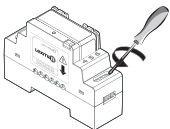

figure 4
5. In order to facilitate the connection, unscrew the 6 screws of the DIN rail box connection terminal block (see figure 4).